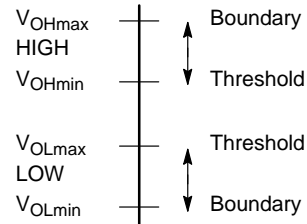

Figure 6. Output Logic Levels
**Output Levels** – Output signals may be differential or single-ended. AC characteristics for ON Semiconductor devices with ECL outputs are typically measured for an output termination of  $50 \Omega$  to  $V_{TT}$  (the termination voltage equal to  $V_{CC} - 2.0 V$ ). HIGH and LOW output levels range between the boundary and threshold values for the respective HIGH and LOW input levels specified on data sheets. Output logic levels are shown in Figure 6.